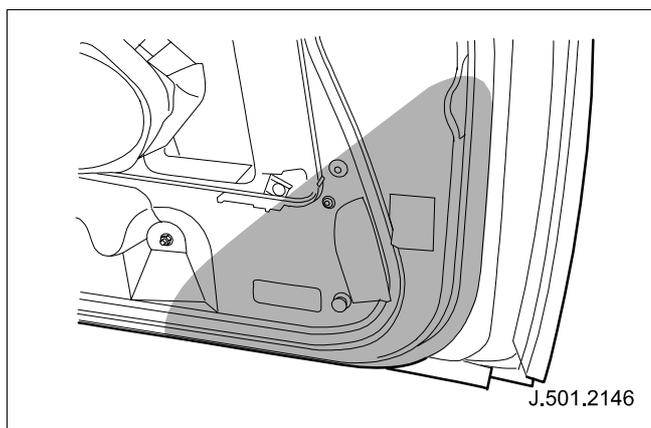

Fig. 5
- 5 BIW Sealing patch. (See Fig. 5)